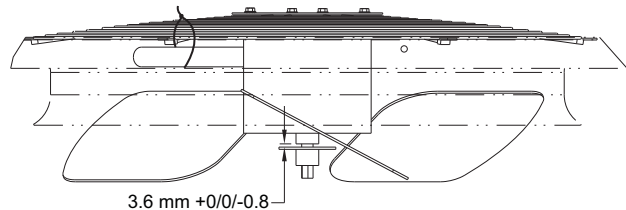

Fig. 37 - Outdoor Fan Blade Position
4. Adjust fan height as shown in Fig. 37.